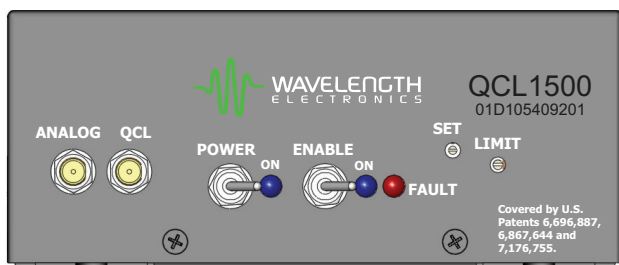

Figure 1. QCL Driver Front Panel
**Figure 1** shows the front panel of the QCL OEM driver and the locations of the Power and Enable switches, Analog In and QCL SMA connectors, and SET and LIMIT trimpots.